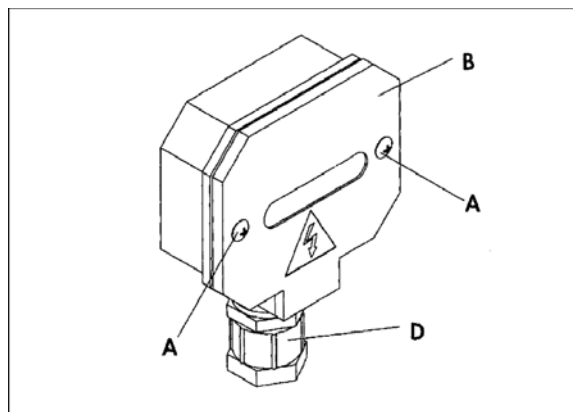
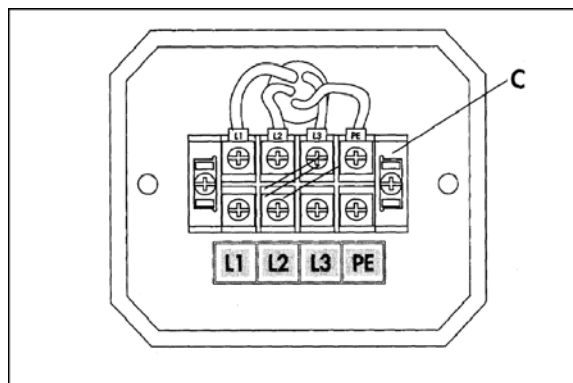

Figure 14
Figure 15
1. Remove two screws (A, Figure 14) and remove terminal strip cover (B, Figure 14).
2. Remove clear plastic insulator (C, Figure 15) that covers the terminals.
3. Insert power line through opening (D, Figure 14) of terminal strip box.
5. Reassemble the clear plastic insulator (C, Figure 15) and the terminal strip cover (B, Figure 14).